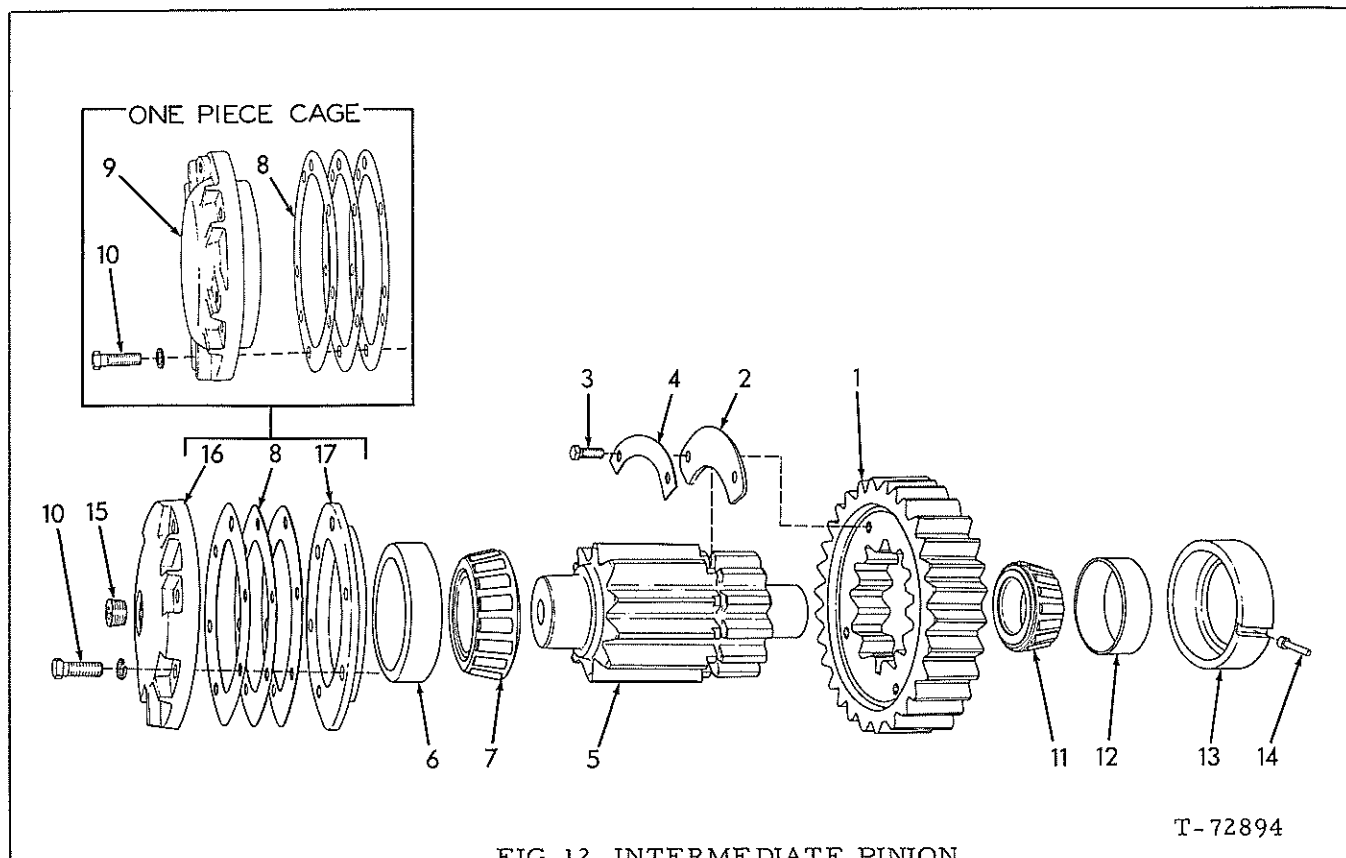
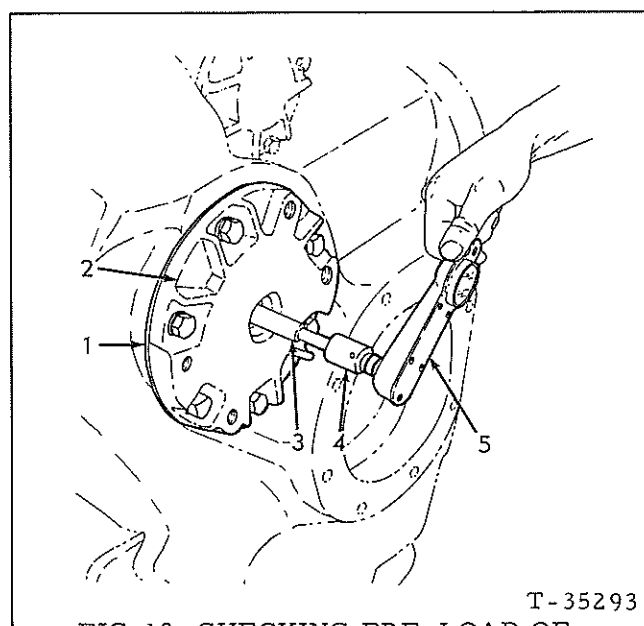

FIG. 12 INTERMEDIATE PINION
FIG. 13 CHECKING PRE-LOAD OF INTERMEDIATE PINION BEARINGS (HD21 SHOWN, HD11 SIMILAR)
NOTE: A .12" oversize bearing cage kit is available to salvage main housings with worn intermediate pinion outer bearing cage bore. This kit is used only on tractors with one piece outer bearing cap, Fig. 12.
1. Refer to Fig. 12; assemble bearing cup (12) in cage (13). Align slot in cage with pin (14) in housing; install cage in housing bore.
2. Drive bearing (7) (11) on shaft; lubricate bearings.
3. Place intermediate gear (1) in housing (lock side of gear to outside of housing); install intermediate pinion in housing and lock gear to pinion.
4. Models with one piece outer bearing cage refer to Fig. 12 and proceed as follows:
- a. Drill a 1-5/32" hole in exact center of cage (9) and tap to accept 1" N. P. T. square socket pipe plug. Secure proper plug and install in cage; grind off plug on inside of cage so it is approximately flush with inner surface of cage; also, plug should not protrude excessively from outside of cage. Remove plug.
- b. Press cup (6) in cage (9); use guide studs and install cage (with original bearing adjustment shims) in housing bore. Torque capscrews to 170 to 187 lbs. ft. (If Grade 8 capscrews are used, torque them to 220 -- 240 lbs. ft.).
- c. Refer to Fig. 13; install 5/8" NC capscrew in end of shaft (be sure capscrew bottoms in shaft); assemble tools as shown and measure bearing pre-load. Add or remove shims as necessary to obtain pre-load of 20 -- 40 lbs. in. Remove capscrew and install pipe plug in cage.
5. Models with two piece bearing cage and retainer refer to Fig. 12 and proceed as follows:
- a. Press cup (6) in cage (17); be certain thickest end of cup protrudes .385" minimum out retainer side of cage.
- c. Refer to Fig. 13; install 5/8" NC capscrew in shaft (be sure capscrew bottoms in shaft); assemble tools as shown and measure bearing pre-load. Remove shims (gradually) as necessary to obtain pre-load of 20 -- 40 lbs. in. Remove capscrew and install pipe plug in cage.
LEGEND FOR FIG. 13